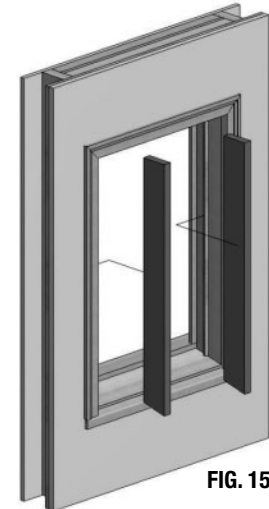

FIG. 15
- C) Remove existing balance system (cut cords if necessary, detach pulleys). (Fig. 15)